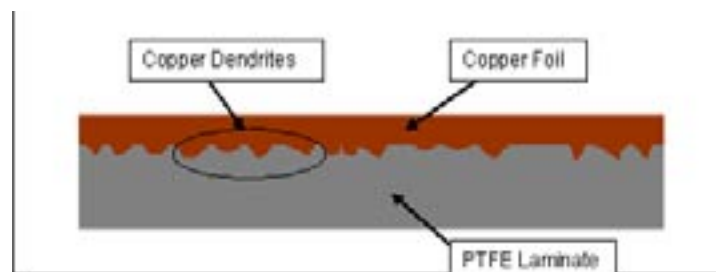

Figure 1 - Illustration of copper laminated to PTFE surface
**Bond Surface Condition:** The condition of the substrate surface prior to bonding is critical in achieving good inner layer bond strength. As shown in Figure 1, the copper foil of the laminate has a dendrite structure designed to increase the copper peel strength. As the copper foil is etched, the dendrite imprint is left in the substrate surface. It is critical to subsequent multilayer bonding that this structure be present and undisturbed. Any mechanical abrasion of the substrate surface will destroy the imprint pattern and can result in poor bond strength between the layers. If the surface is destroyed, a sodium or plasma etch prior to multilayer bonding will greatly enhance surface adhesion. It is recommended that proper handling